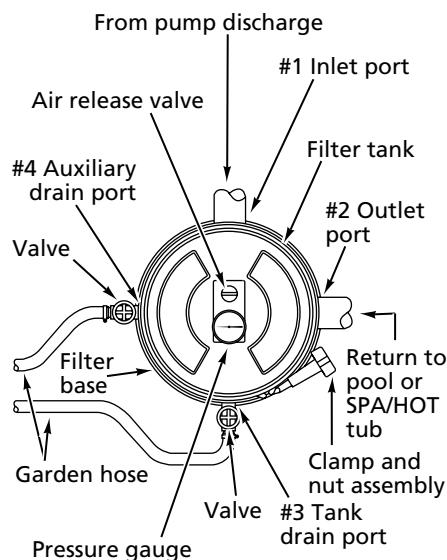

Figure 4
1. See Figure 4 for piping connections to filter.